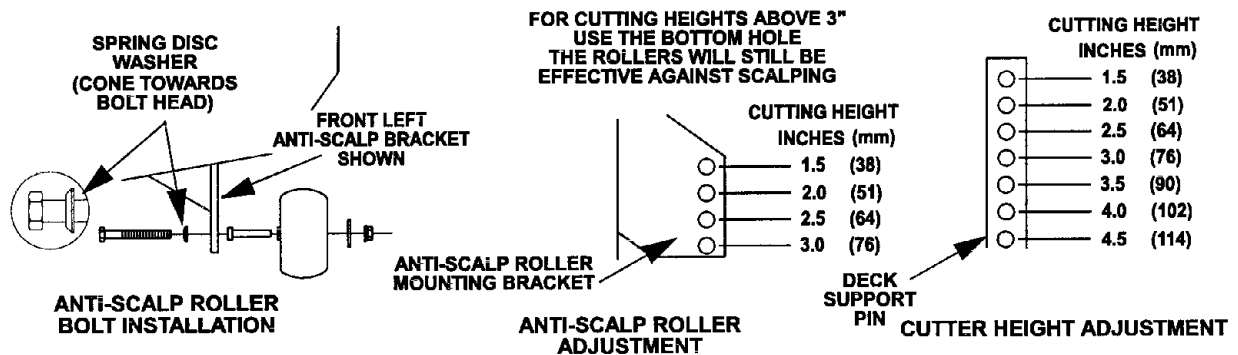

FIG 7
a) Install hairpin clips in the holes shown on sketch below for the desired cutting height (See Figure 7).
- b) For maximum deck flotation, rollers should maintain 1/4 in. (6.4 mm) clearance to ground. **Do Not** adjust rollers to support the deck. Be sure roller bolts and nuts are installed with the spring disc washer between head of the bolt and mounting bracket (See Figure 7). **Torque to 40-45 ft-lbs, or loss of roller may result.**
- c) When operating in extremely rough conditions it may be necessary to position the anti-scalp rollers one or two holes higher than described in "b" to prevent damage to the rollers and/or bolt failure (See Figure 7).